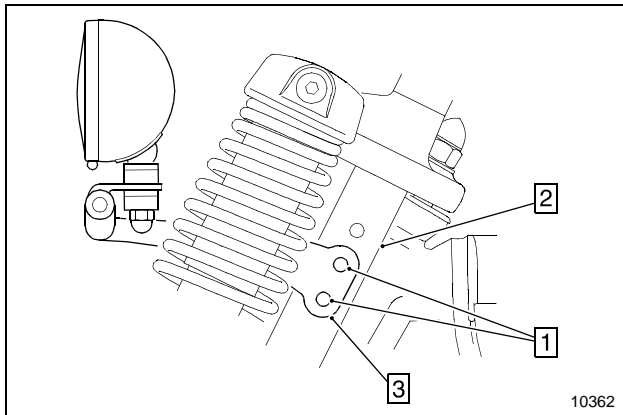

Figure 2
2. Attach the driving lamp bar brackets to the rigid fork with the 4 hex. button hd. screws provided as shown (see Figure 2).